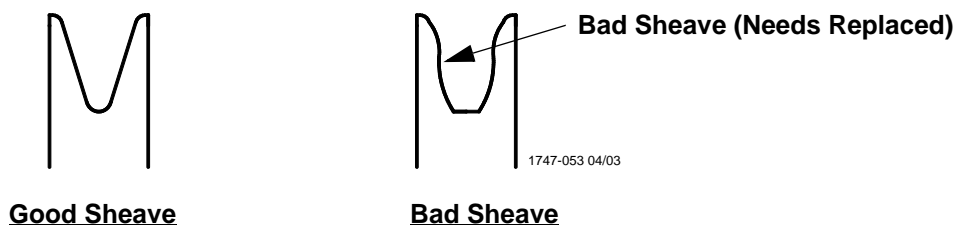

Figure 24. Sheave Condition
- Check Sheaves for wear. Replace if a Sheave groove is worn. (See **Figure 24**)